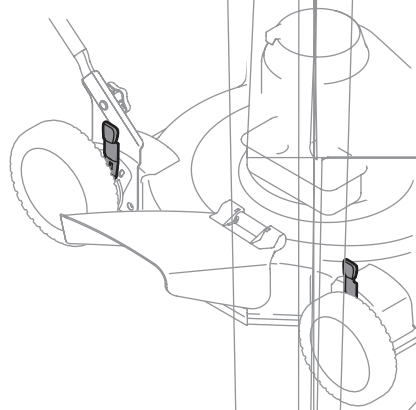

Figure 3-11: Adjusting the cutting height.
2. Slide the lever assembly to desired position to change the cutting height. See Figure 3-11.